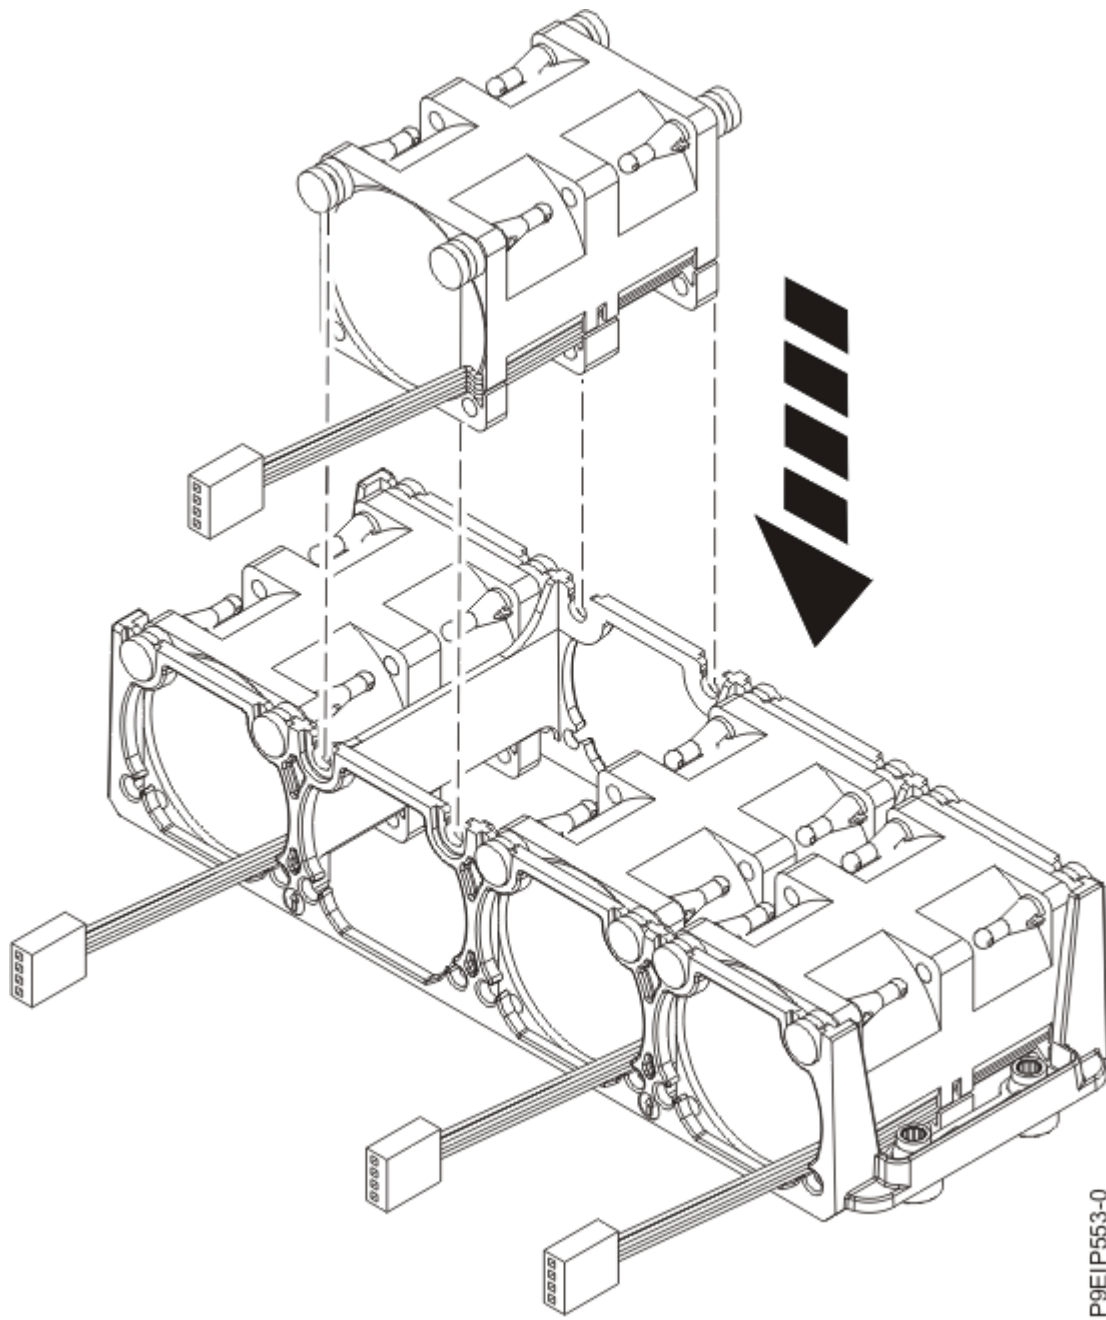

Figure 17. Replacing a fan
3. With the fan holder lifted, push the fan into the housing as shown in Figure 17 on page 21.